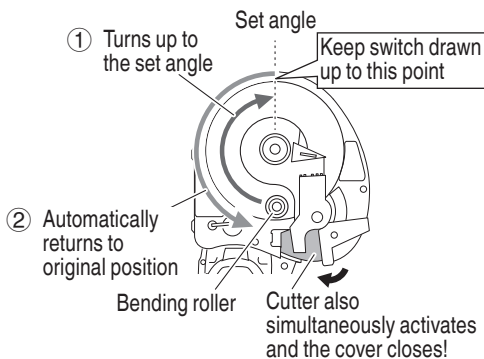

Fig. 17
Releasing the switch within area ① will apply a brake that will stop operation. (Fig. 17)
Releasing the switch within area ② will automatically return the upper cutter and bending roller to their original positions. (Fig. 17)